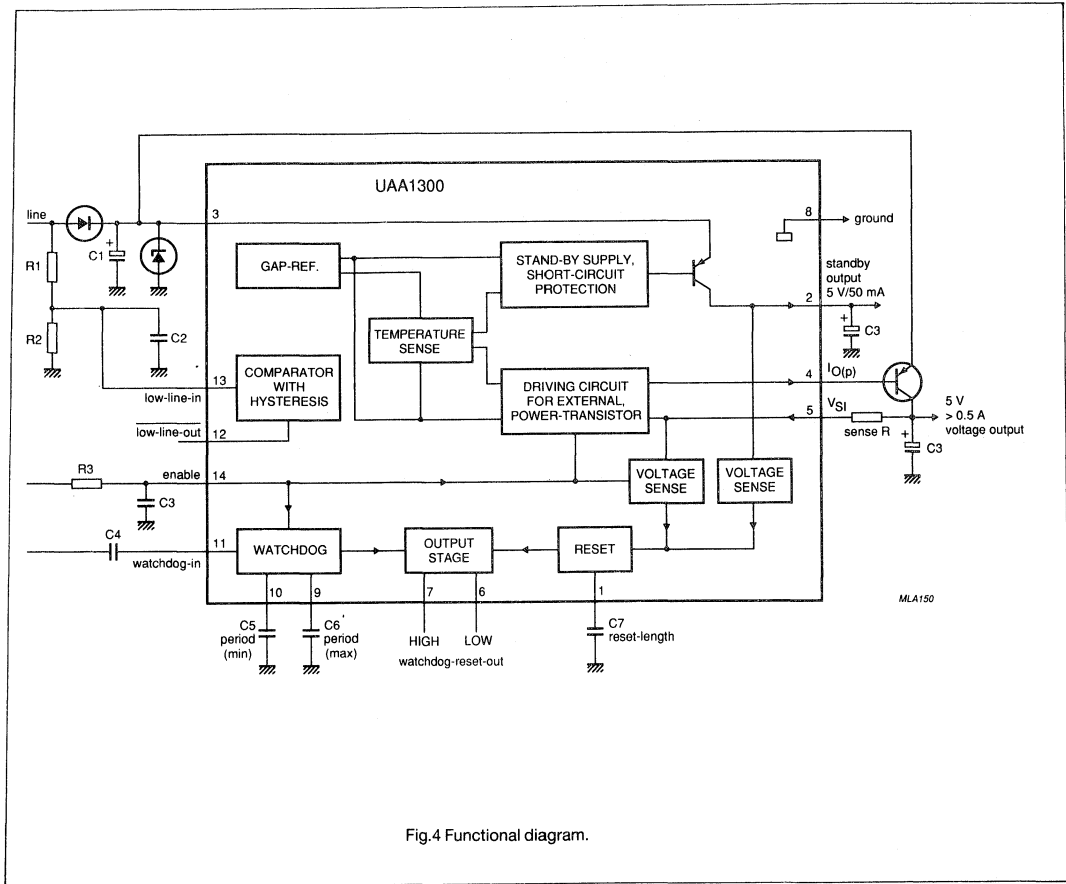

Fig.4 Functional diagram.
Output current  $I_{O(p)}$  drives an external PNP power transistor when switched on by the enable input (EN). Voltage sense input ( $V_{S1}$ ) regulates the current at the external power transistor. With  $R = 0 \Omega$  the voltage is  $5 V \pm 100 mV$ . Using a resistor  $> 0 \Omega$  the output will be regulated to a voltage  $> 5 V$  (see Figs 4, 16, 17).
An additional external capacitor C2 prevents an initiation of an LLO pulse which might otherwise be caused by short duration (transient) LLI voltage drops (see Fig.4).